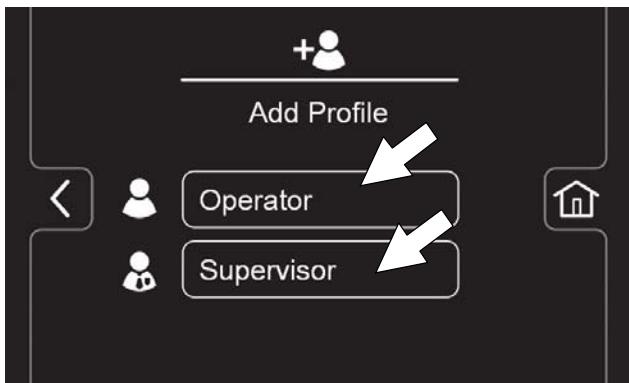

FIG. 171
- Press the Operator button to add an Operator mode profile or press the Supervisor button to add an additional supervisor mode profile (Figure 171).